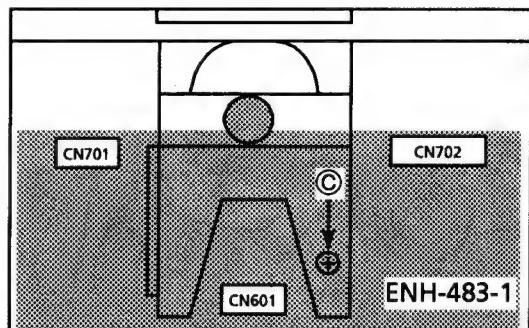

Fig. 3 UP SIDE
- Disconnect the CN601. (Fig.3)
2. Disconnect the CN701 and CN702. (Fig.3)